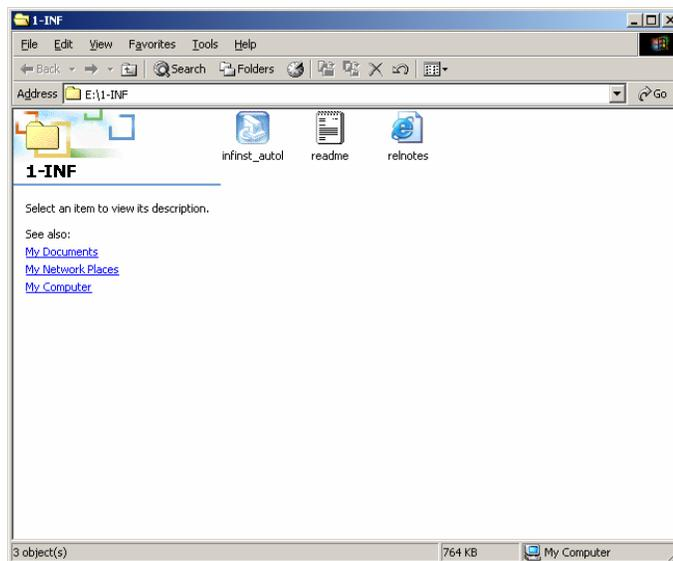

Figure 6-2: Chipset Driver Installation Program
Step 2: A new window opens (**Figure 6-2**).
Step 3: Double click the infinst_Autol icon in **Figure 6-2**.